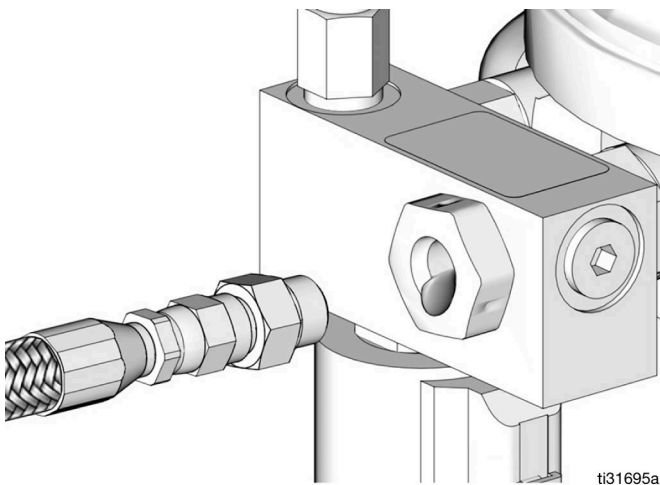

FIG. 31
2. Run the pump only until air-free lubricant dispenses from the element fitting (FIG. 31).